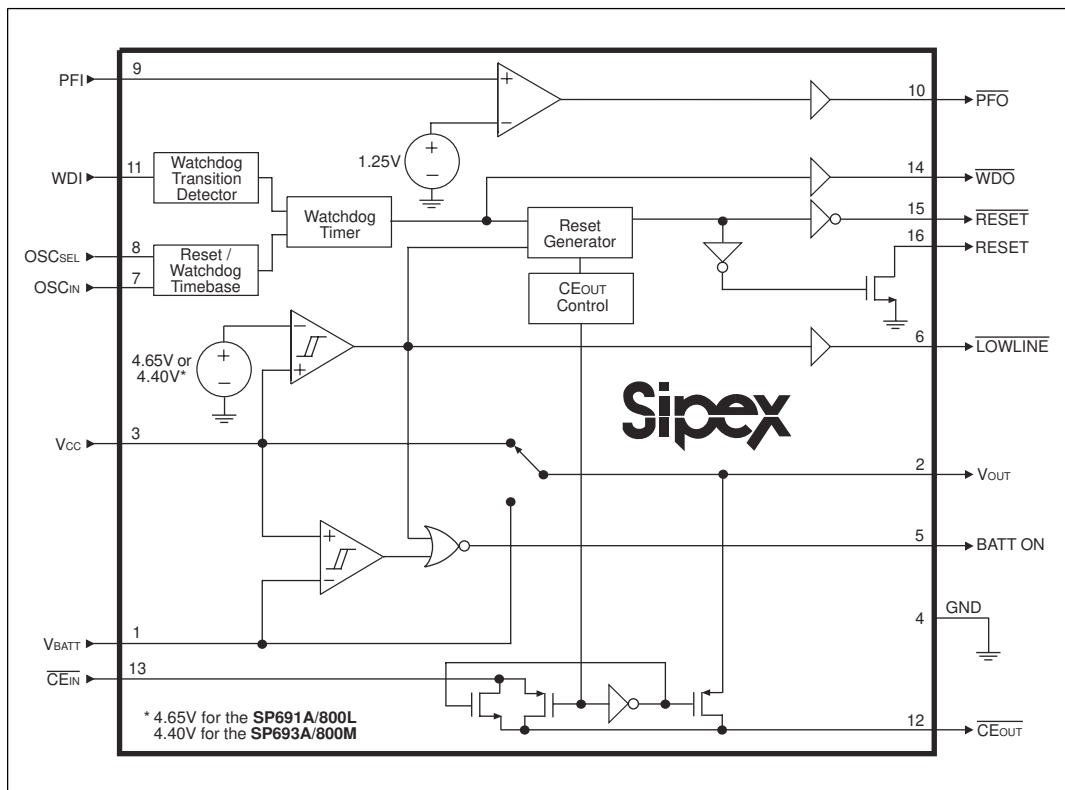

Figure 16. Internal Block Diagram of the SP691A/693A/800L/800M
The SP691A/693A/800L/800M devices provide internal gating of chip-enable (CE) signals, to prevent erroneous data from corrupting the CMOS RAM in the event of a power failure. During normal operation, the CE gate is enabled and passes all CE transitions. When reset is asserted, this path becomes disabled, preventing erroneous data from corrupting the CMOS RAM. The SP691A/693A/800L/800M devices use a series transmission gate from CE_{IN} to CE_{OUT}. Refer to *Figure 16*.
LOWLINE is the buffered output pin of the reset threshold comparator. Refer to Figure 16. LOWLINE typically sinks 3.2mA at 0.1V. For normal operation where V_{CC} is above the reset threshold, LOWLINE is pulled to V_{OUT} .